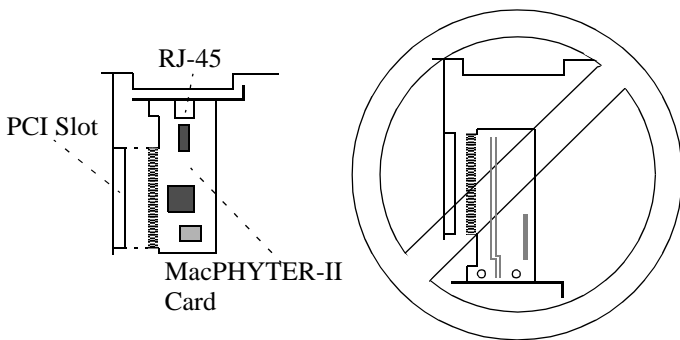

Figure 2: Correct orientation of the MacPHYTER-II card (top view).
5. Insert the MacPHYTER-II card into the empty PCI slot in the PC. Orient the card so that the RJ-45 connector points out of the computer (See Figure 2).